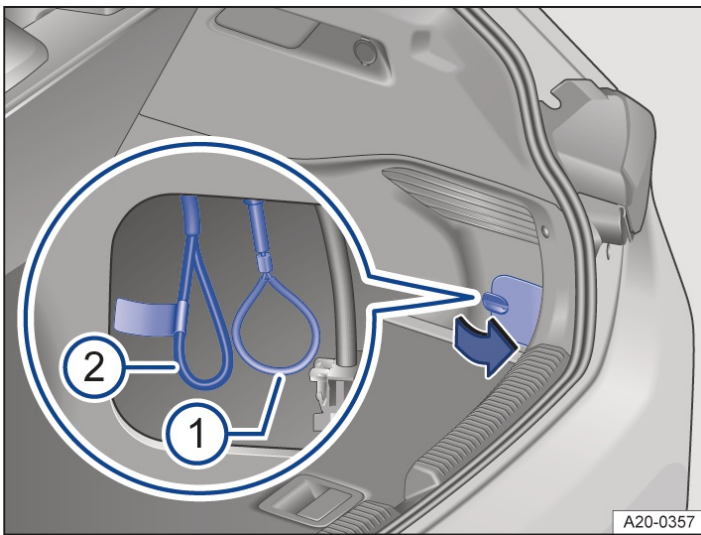

Fig. 4 Behind the flap in the right-hand luggage compartment trim: manual release mechanism for the charging connector.
There is a flap with a catch on the bottom right-hand side of the luggage compartment → Fig. 4.
6. Pull the loop for manual release → Fig. 4 ①. The loop does not have a tag → ⚠! The charging connector can now be removed → ⚠.
Depending on the equipment, there is a fuse loop for the high-voltage system for use by emergency services directly next to the loop for manual release → Fig. 4 ②. The fuse is marked with a yellow tag → ⚠.